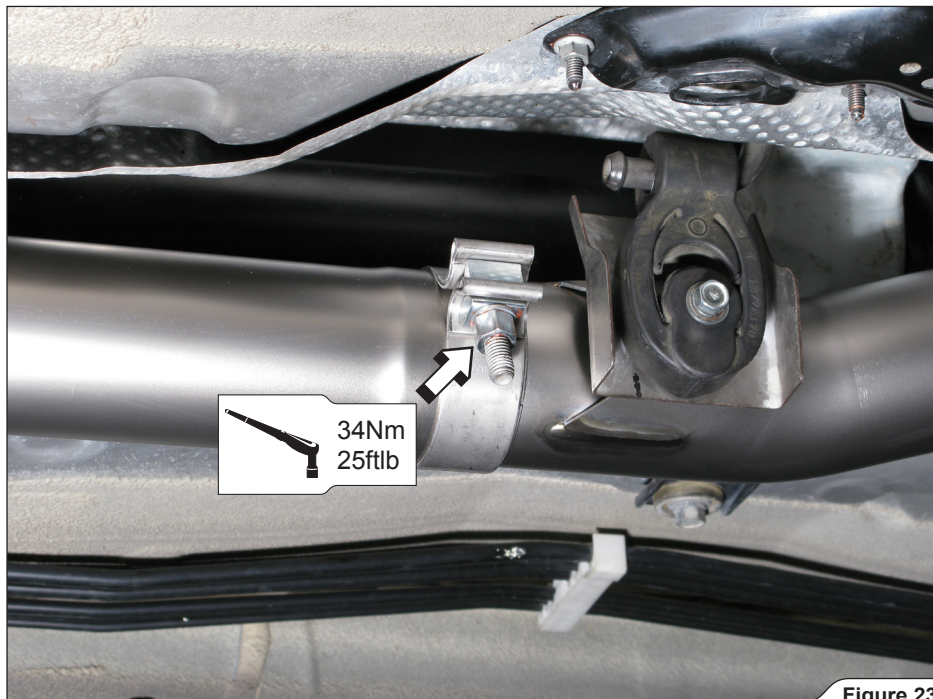

Figure 23
12. **For Evolution only:** align the mufflers, push the middle pipe all the way onto the front pipe and tighten the clamp to a specified torque (**Figure 23**).